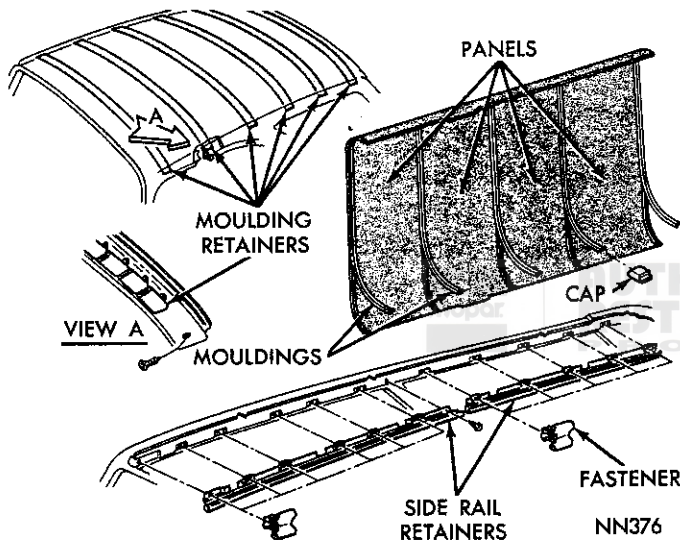

Fig. 9—Hard Type Headlining
The individual hard board headlining sections are held in position with semi-flexible type plastic mouldings (Fig. 9) forced over the retainer sections of the roof bows. Starting at either outer end, remove the end cap and pry the moulding off the retainer. When installing moulding, make certain it is fully seated
- (1) Remove mouldings (Fig. 9) at edges of section being removed.
- (2) Using a fibre tool force liner section off of roof bow and out of side retainers.
- (3) Inspect section for damaged edges.